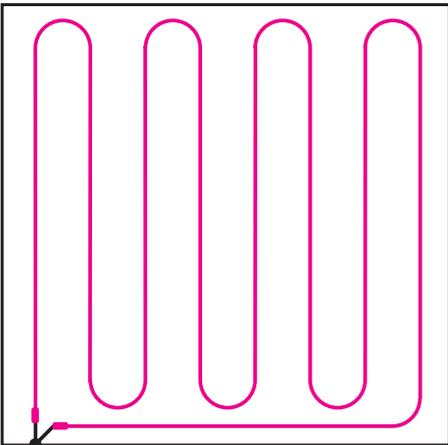

Fig. 1
12. Since DSIG-20 is a single-conductor cable, which means that both ends has to be connected to the thermostat, this has to be taken into consideration, when laying out the cable (see fig. 1).